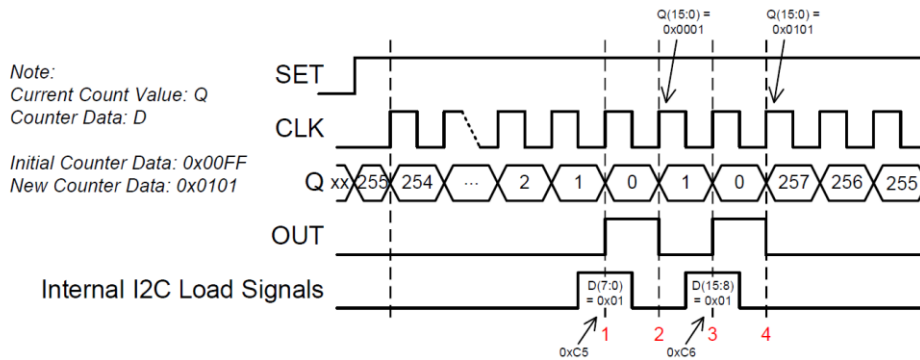

Figure 10: I2C Write of 16-Bit Counter Data Example
The timing diagram in Figure 10 sets up a case where an improper output will be seen on the counter. In this example, the initial Counter Data value (D) is set up as 0x00FF. As you can see, the
For the following condition, the Counter Data register contents are unexpectedly loaded into the counter's DFF chain. This behavior occurs when there is a falling edge on the counter block's clock input during the data return portion of an I2C read of the Counter Data registers. Figure 10 shows this falling edge boxed in light blue followed by two I2C reads of the Current Count Value registers.